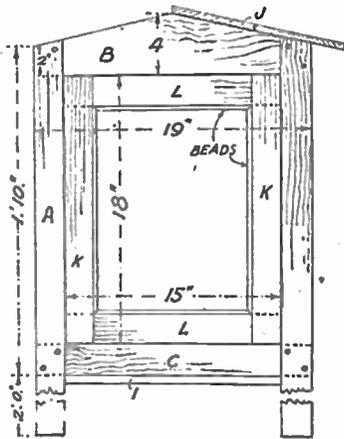
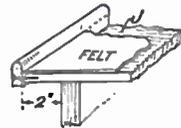

Fig. 2
Fig. 6
half-lapped together as shown in Figs. 2 and 3, and glued and screwed together.
Two boards (J) each measuring 17ins. long by about 6ins. wide will form each slope of the roof, the tongued and grooved joint running from front to back as seen in Fig. 2. Nail the boards well to the top and side rails of the framework, and note that they overhang the front by 2ins. and the back by 3/4in. The side overhang is shown in Fig. 2. Cover the roof boards with stout felt or lino, brought over the edges and tacked down, a narrow spline being added at the front and back as in Fig. 6.